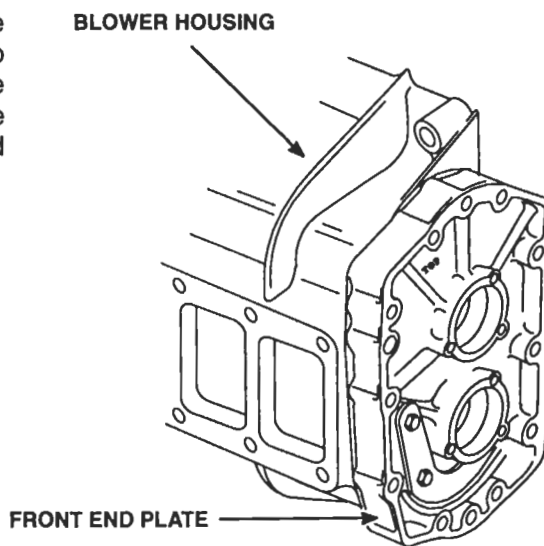

Figure 16. Position of Blower Front End Plate on Housing
1. Install the blower front end plate. Make sure the mark TOP on the outer ribbed side is at the top of the blower housing, identified by the flange which supports the housing on the top edge of the cylinder block (Figure 16.) The front and rear end plates of the blower are interchangeable.